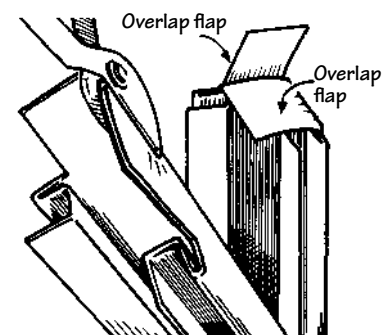

Figure 29.
- Corner posts on homes with a second-story overhang need to be capped by making the cuts shown (Fig. 29). Fold the flaps created over each other as indicated.